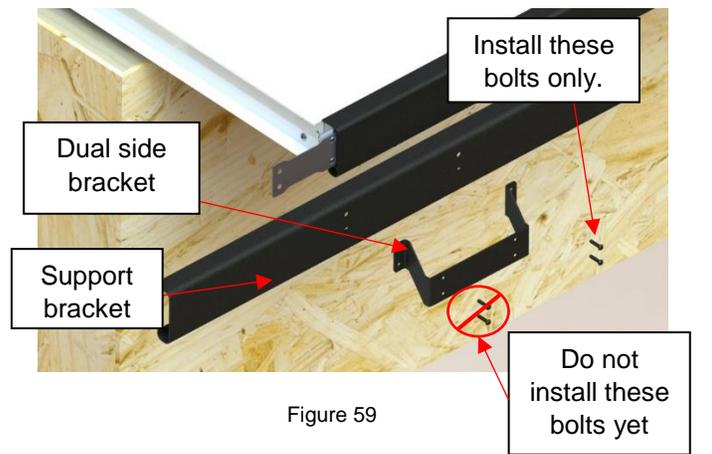

Figure 59
14) Repeat step 13 for the opposite side of the cover (Figure 59).